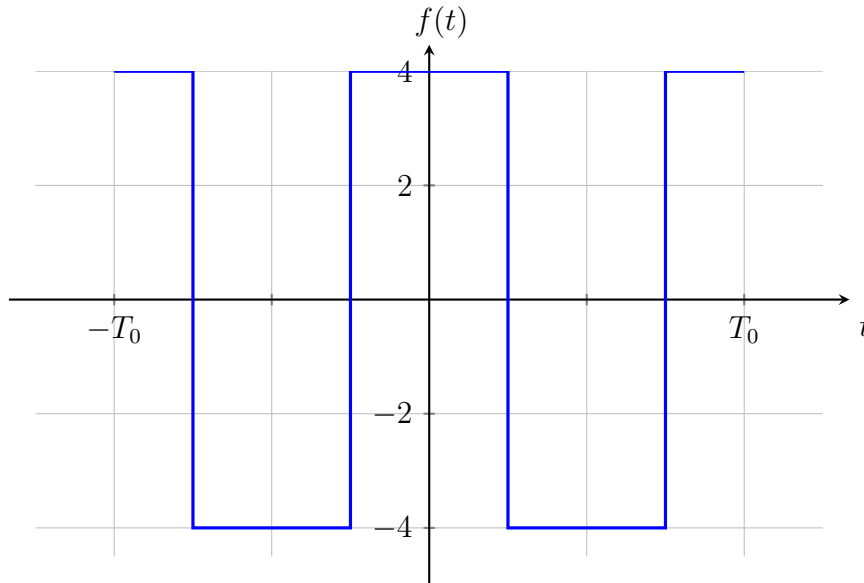
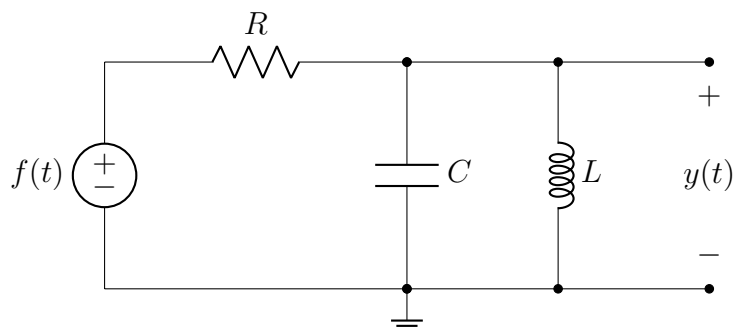

Figure 5.1: 4 V square wave.
Figure 5.2: Series/parallel resonant circuit
Derive the exponential Fourier series for the square wave that has an amplitude of 4 V (8 V peak-to-peak and no DC component seen in Fig. 5.1).
Find the ODE governing the circuit in Figure 5.2. From the ODE, derive the transfer function  $H(s)$  from this ODE. In your `ece3210_lab06.py`, add a simulation of the system if the input  $f(t)$  is the square wave in Fig. 5.1.
- What ODE governs the circuit in Fig. 5.2?
Connect the  $1\text{ k}\Omega$  resistor, the  $0.033\text{ }\mu\text{F}$  capacitor, and the  $1\text{ mH}$  inductor as shown in Figure 5.2. Connect the input to the function generator and attach a scope probe to the output. Configure the function generator to produce a  $20\text{ kHz}$  square wave with a  $4\text{ V}$  amplitude. Compare the scope output to your predicted response. It is unlikely they are the same due to part tolerances. The easiest (but not the most accurate) way to compensate is to adjust the frequency until the images are similar. Record your observations and include a conclusion in your Canvas submission summarizing what you have observed or discovered.